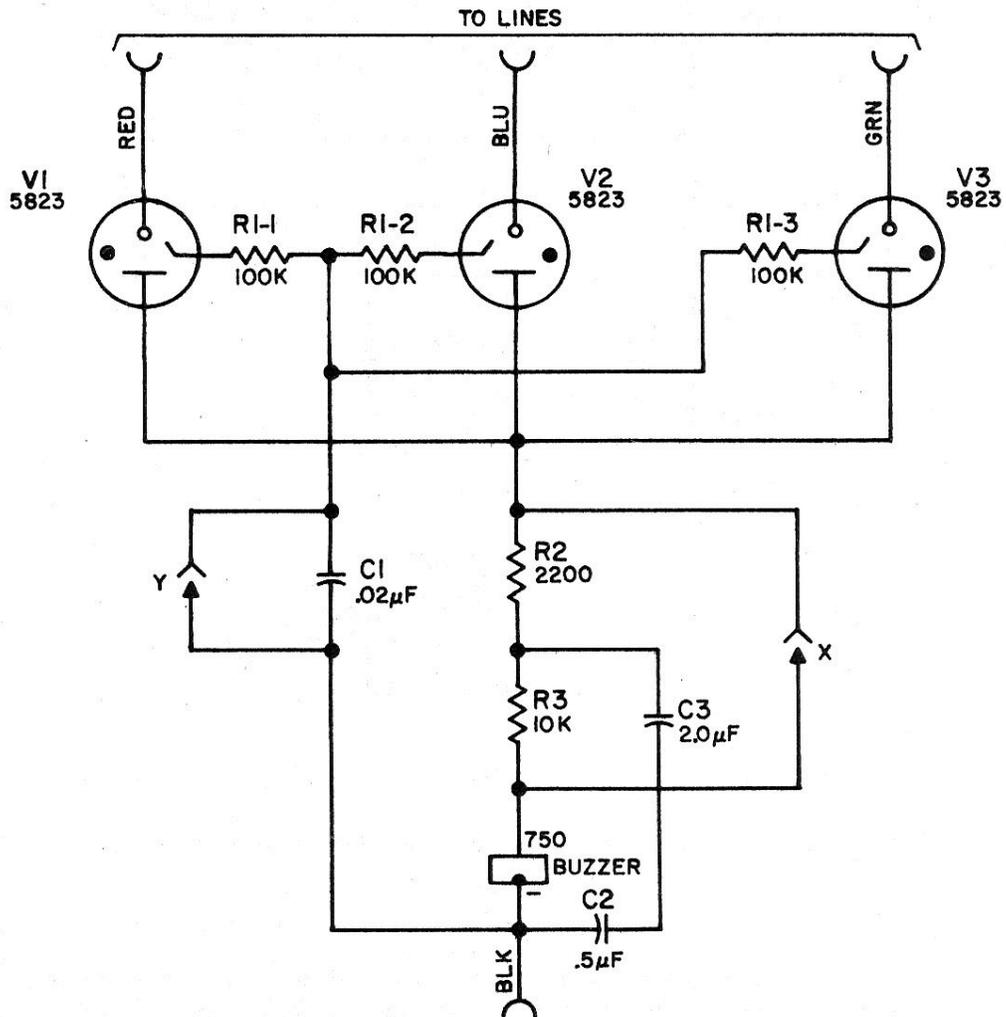
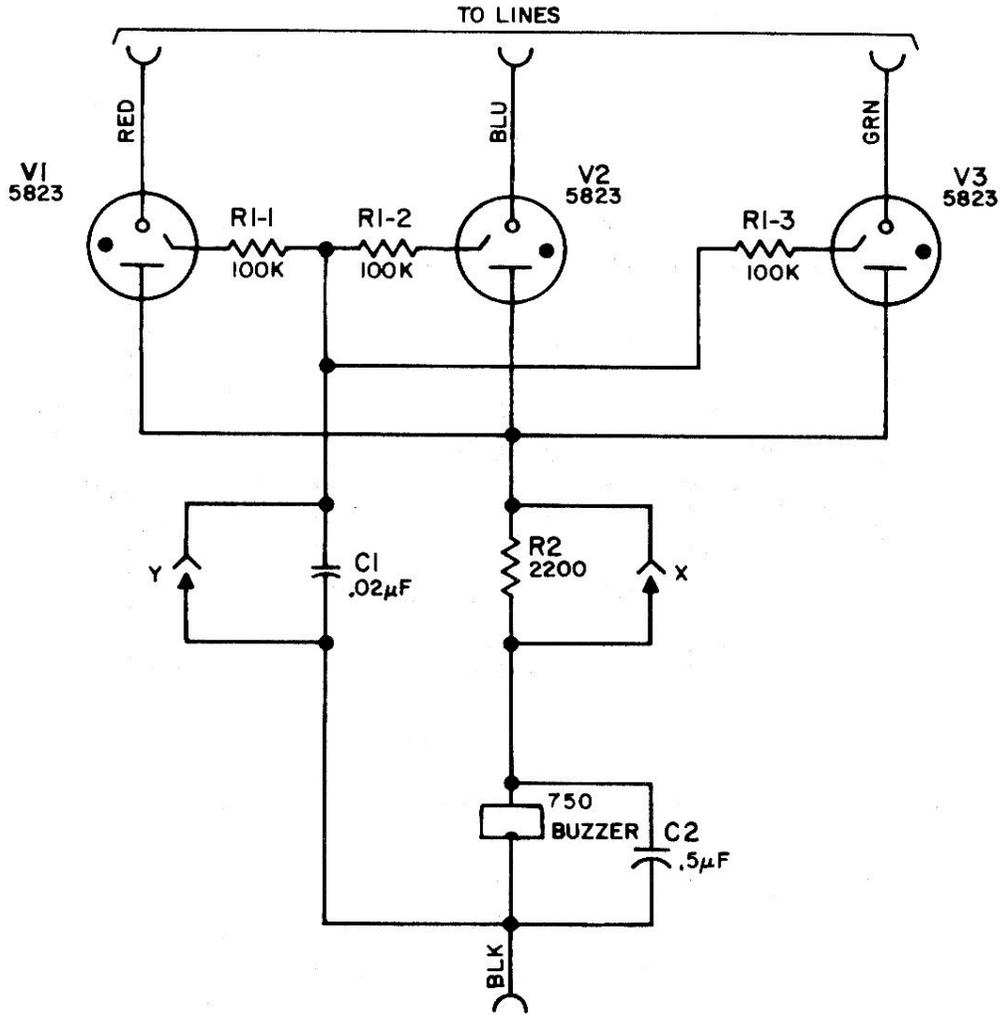

Figure 14. Circuit of First Production of Common Audible Signal Unit.
Figure 15. Circuit of Common Audible Signal Unit (1969-1972).
2.36 In the first production units, prior to 1969, removing the X strap inserts the parallel combination of 10 kilohms and 2 microfarads in series with 2200 ohms and the relay buzzer, as shown in Figure 14. This relatively high resistance was necessary to prevent false operation with the
2.37 Subsequent reduction in the scope of applications eliminated the need for SATT system compatibility so that, in the common audible signaling units manufactured between 1969 and 1972, only a 2200-ohm resistor is inserted by cutting the X strap (Figure 15). This change simplified installation and favored exchanges with low ringing voltage. In these units, typical direct current for a 125 V generator is 10 mA. The relatively low resistance circuit increases the chances of false ring cutoff, particularly when a line is monitored by more than one unit.
2.40 Removing the Y strap (Figures 15 and 16) inserts 0.02 microfarad in the starter anode circuit, blocking dc to prevent response to dial pulses. (Older units, as shown in Figure 14, designated this strap also as Y.) This option is necessary only when the signal unit is connected between the ring (-) conductor and ground (items B and D in Table 1). When dialing, the first of the negative line surges will charge the capacitor, fire the tube, and pulse the relay once. With the capacitor charged, subsequent surges from the remainder of the dial pulses will be ineffective, and the relay buzzer will remain silent.